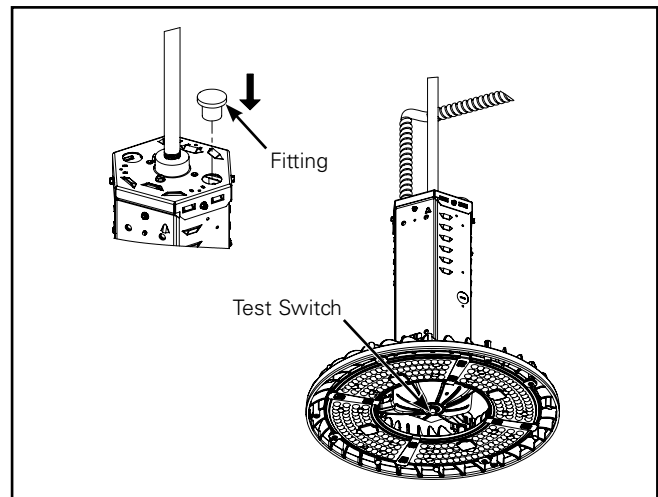

Figure 4.
5. Cover KO with fitting provided. (Figure 4).